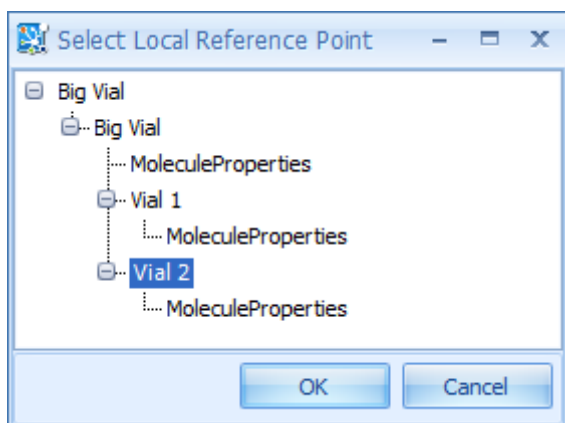

Figure 25.18. Select Relative Path window
6. Since the display returns to the properties tab, you need to click the "Monitor" tab again. Set the relative path as described for the Molecule Observer (see Figure 25.18 and corresponding text above) to "Vial1".